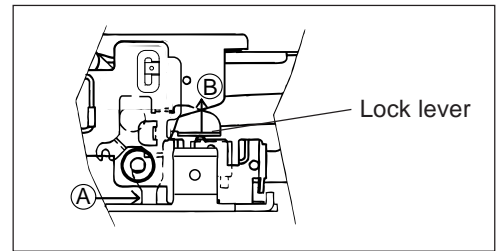

Fig. 1. Lock lever
- (1) Remove the CAP FPC cover. (Remove the Head amplifier PWB unit and tighten screw together.)
- (2) Apply DC3V to the loading motor to set the standby mode. Press the lock lever in the arrow direction to move up the cassette controller. (See Fig. 1, direction (A) or (B))
As for greasing/oiling/cleaning places refer to the attached drawings (Grease/Oil application Fig. 1, 2).